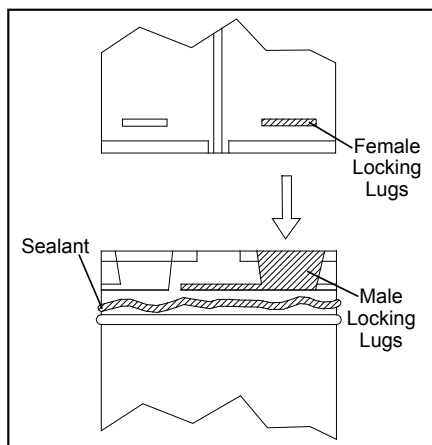
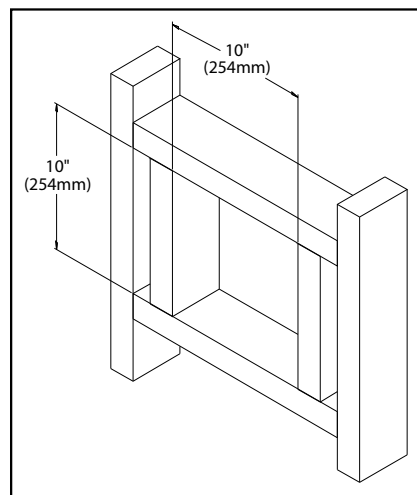

Figure 8: Twist-Lock Connection
Figure 9: Wall Framing Hole for Horizontal Installation.
Place a bead of Mil-Pac on the outer edge of the inner exhaust pipe (non-flared end). Place a bead of high temperature silicone on the male edge of the outer pipe. Push the pipe sections completely together, then twist-lock one section clockwise approximately $\frac{1}{4}$ turn, until the two sections are fully locked. The female locking lugs will not be visible from the outside, on black pipe. They may be located by examining the inside of the female ends as shown in Figure 8.
(1) Twist-lock procedure: four indentations, located on the female end of the pipes and fittings, are designed to slide straight onto the male ends of adjacent pipes and fittings, by orienting the four pipe indentations so they match and slide into the four entry slots on the male end.
(2) Horizontal runs of vent pipe must be supported every three feet. Wall straps are available for this purpose, also when running horizontal pipe minimum clearances to combustibles must be maintained; **2 inches (5.1 cm) at top, 1½ inches (3.8 cm) at sides, 1½ inches (3.8 cm) at bottom.**
STEP 3. With the pipe attached to the stove in the correct location, mark the wall for a 10" (25.4 cm) x 10" (25.4 cm) square hole (refer to Figure 9). The center of the square hole should match the centerline of the horizontal pipe. Cut and frame the 10" (25.4 cm) x 10" (25.4 cm) hole in the exterior wall where the vent will be terminated. Refer to Figure 8. If the wall being penetrated is constructed of non-combustible material i.e. masonry or concrete, a 7 inches (17.8 cm) hole is acceptable.